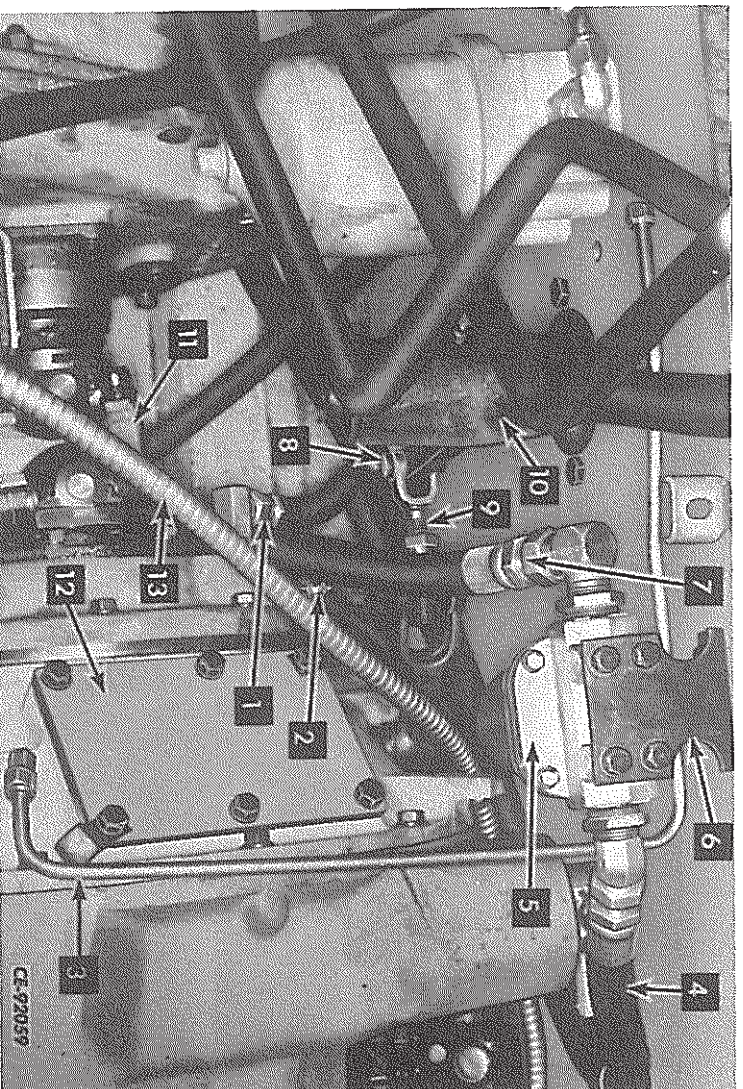

FIG. 2 — Clutch Mounting
5. Disconnect the clutch inlet hose (1, Fig. 2) at the clutch housing end cover. Disconnect the outlet hose at the bottom of the clutch housing. With the outlet hose disconnected, remove the strainer capscrews and pull the strainer (18, Fig. 3) with "O" ring (18A) from the clutch housing to prevent it from being damaged during clutch removal.
6. Disconnect the cable at the clutch oil temperature sending unit (2, Fig. 2).
7. Disconnect the clutch housing vent tube (3, Fig. 2) at the clutch housing.
8. Disconnect the suction filter inlet hose (4, Fig. 2). Cap and secure the hose in a raised position to prevent any oil draining from the rear main frame. Disconnect the suction filter outlet hose (7). Remove the capscrews securing the suction filter mounting bracket (6) to the frame side. Remove the suction filter (5) and mounting bracket (6) as an assembly.
9. Remove the cotter pin from the rod end pin (8, Fig. 2). Remove the rod end pin and disconnect the link (9) from the hand lever (10).
10. Disconnect the universal joint (11, Fig. 2) from between the clutch and transmission.
11. Remove the inspection cover (12, Fig. 2) and gasket from the clutch housing. Paint mark the clutch back plate to the flywheel to assure assembly in the same position and remove the back plate securing capscrews and lockwashers.
12. Move the battery cable (13, Fig. 2) out of the way for clutch removal.